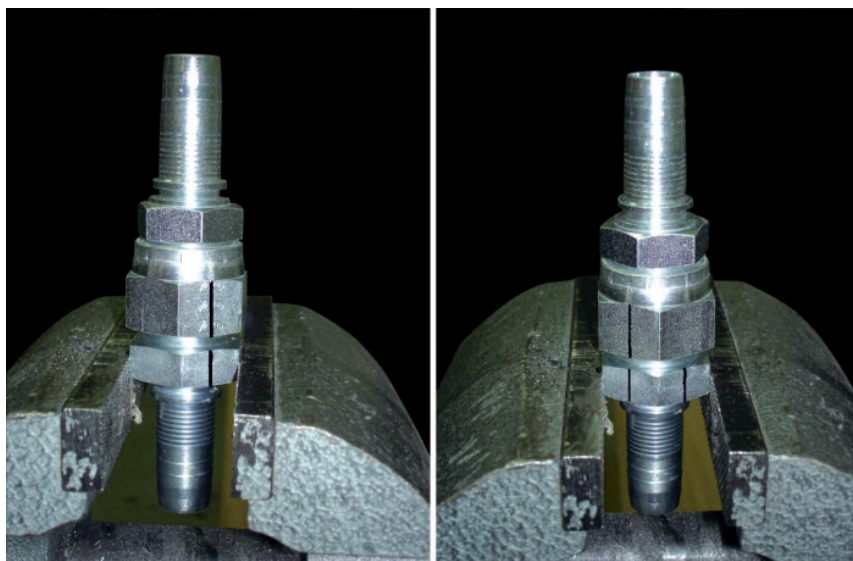

Fig.1
- make a longitudinal mark on one of the flats of hex and continue it on the body hex as shown in Fig.1